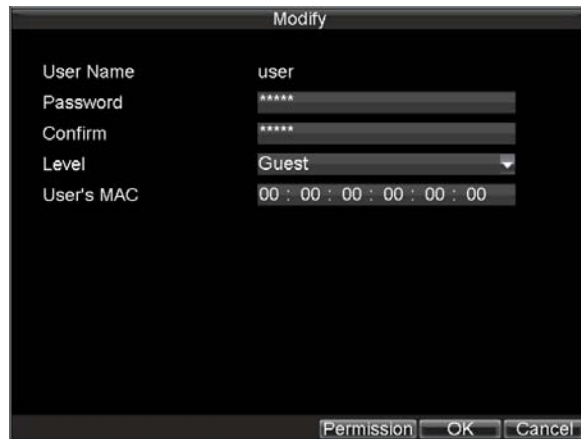

Figure9. Modify User Menu
3. Click the *Modify* button to enter the Modify menu, shown in Figure 9.